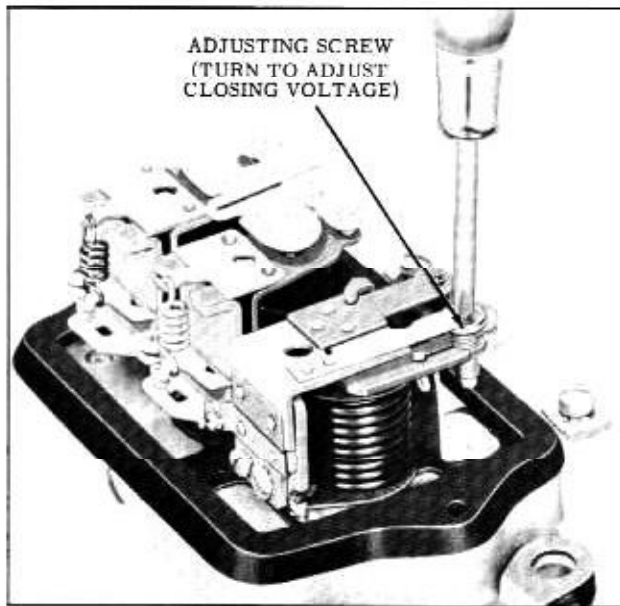

Fig. 13-16 Adjusting Cutout Relay
- Adjust the closing voltage to 12.8 volts by turning the adjusting screw clockwise to increase the setting or counterclockwise to decrease the setting. (Fig. 13-16)